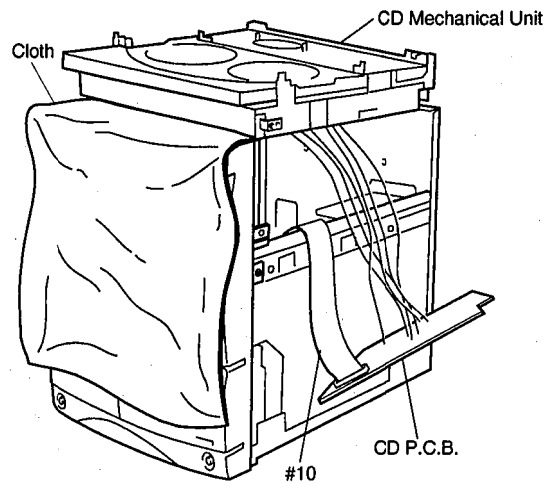

Fig. 5
- Put a cloth over the Front Panel and place the CD Mechanical Unit in Fig. 5.
- Connect the Flat Connecting Cable #10 in Fig. 5.